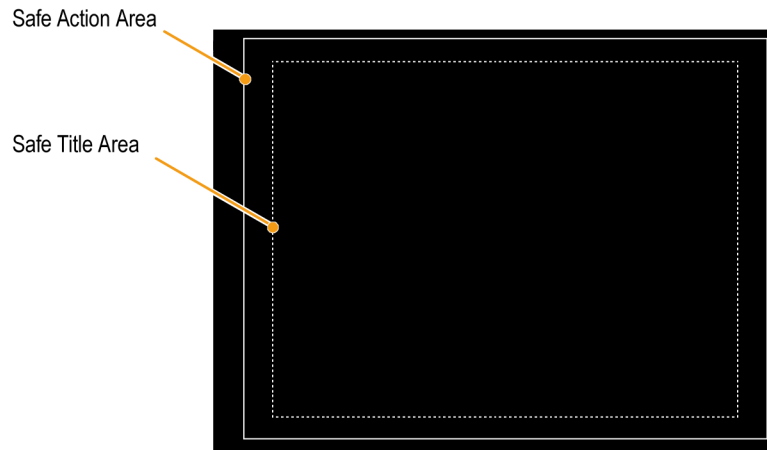

Figure 61: Safe Action and Safe Title areas
- The Safe Action Area shows the maximum image area within which all significant action should be contained; the Safe Title Area shows the maximum image area within which all significant titles should be contained. (See Figure 61.)